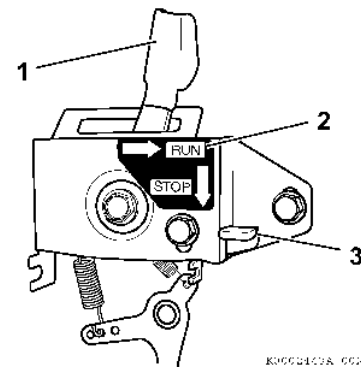

Figure 37
The engine speed control lever (**Figure 37, (1)**) is moved to the run position (**Figure 37, (2)**) for generator operation. To stop the generator, turn the key switch to the OFF position, or push down on the stop lever (**Figure 37, (3)**) and the speed control lever (**Figure 37, (1)**), which is spring-loaded, will move back to the stop position.